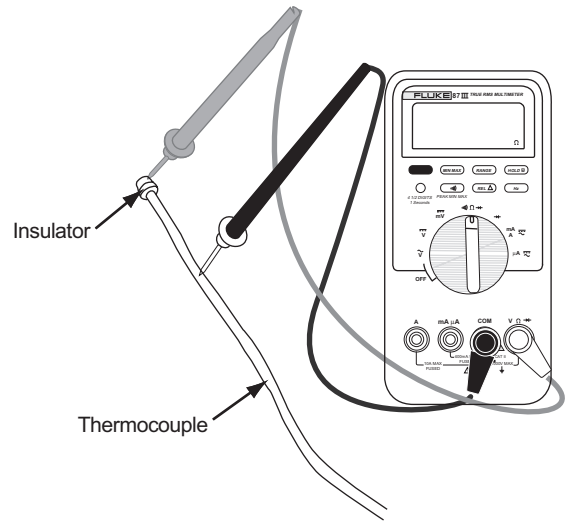

Figure 4. Checking thermocouple voltage output to interrupter
6. Connect voltmeter as shown in Figure 4. Do not disconnect wires from interrupter.